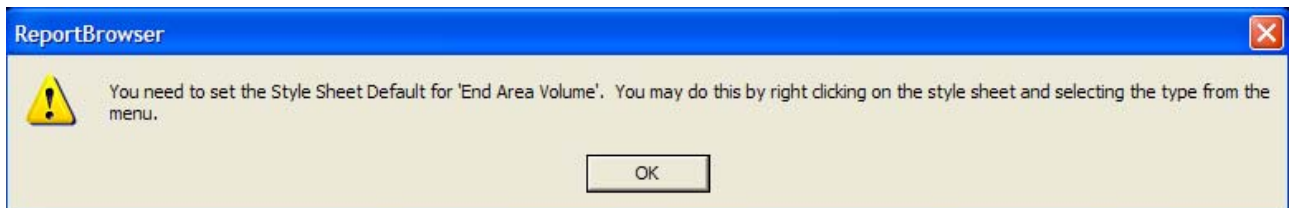
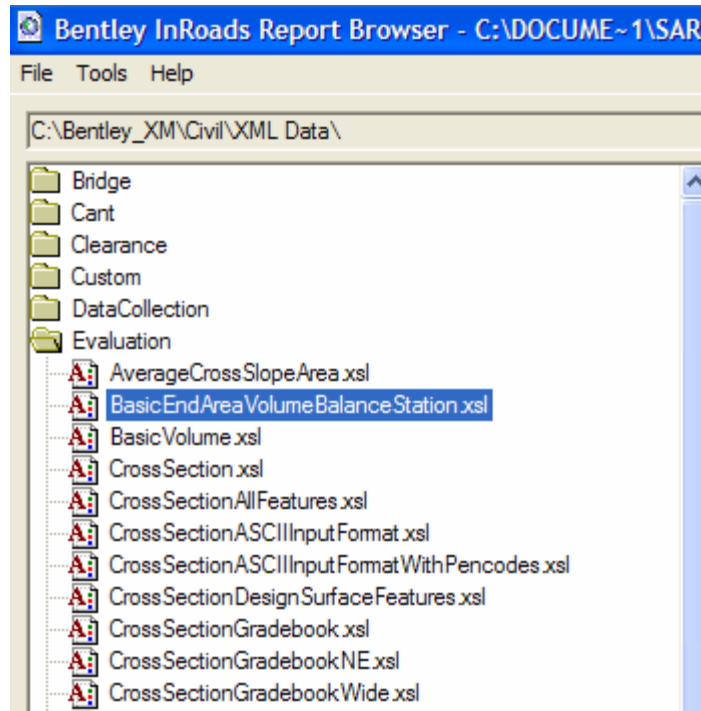

Figure 9-3 Report Browser Message
Figure 9-4 InRoads Report Browser Evaluation Folder
- D. Make sure **Create XML Report** is checked on, click **Apply** and then click **OK** to the next message (see Figure 9-3). Figure 9-4 shows the listing of .xsl reports and Figure 9-5 displays the content of the Basic End-Area Volume report.